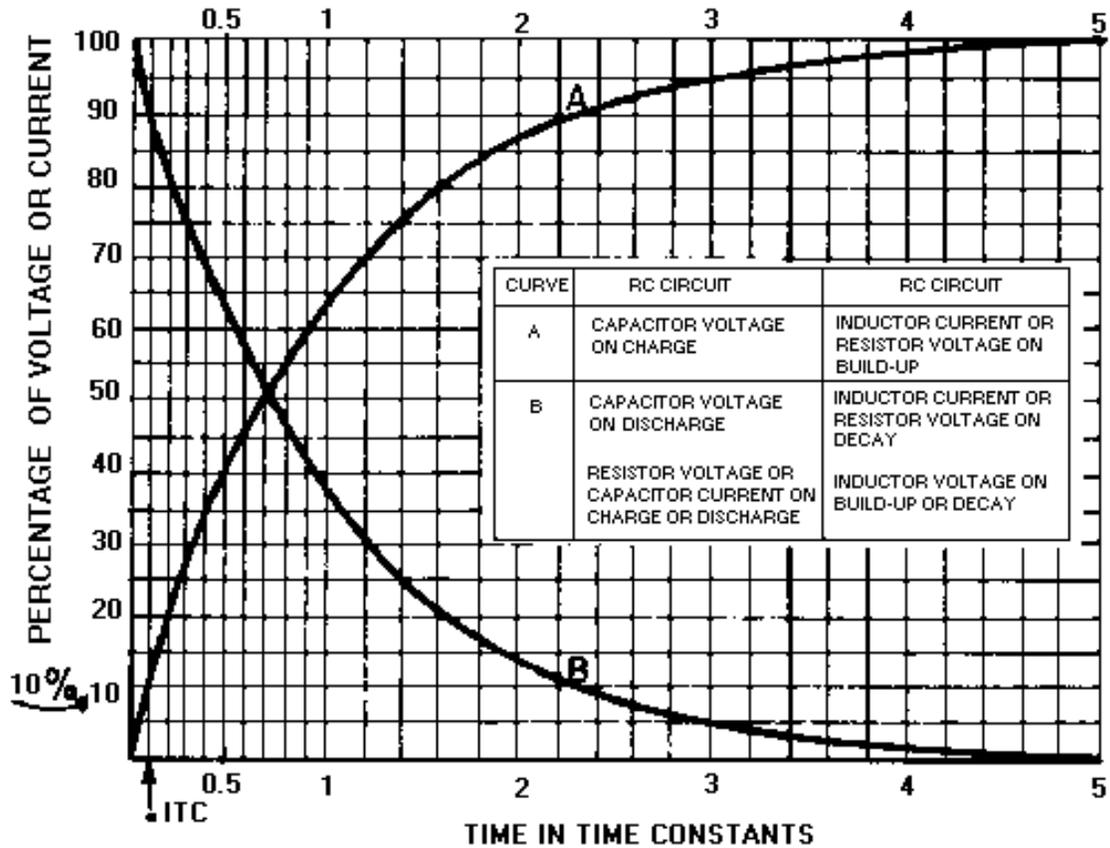

Figure 3-39.—Universal Time Constant Chart.
By selecting the sizes of R and C, you can have a time constant of any value you desire. Further, by controlling the time S1 remains closed, you can generate a sawtooth of any duration. Figure 3-39 is the Universal Time Constant Chart. Notice in the chart that if 1 time constant is 1,000 microseconds, S1 (figure 3-38, view (A)) can be closed no longer than 100 microseconds to obtain a reasonable linear sawtooth. In this example, C1 will charge to nearly 10 volts in 0.1 time constant.
As stated in the discussion of time-base generators, the waveform produced from any sawtooth generator must be linear. A LINEAR SAWTOOTH is one that has an equal change in voltage for an equal change in time. Referring to the Universal Time Constant Chart in figure 3-39, you can see that the most desirable part of the charge curve is the first one-tenth (0.1) of the first TC .
Decreasing the value of the TC (R_2 or C_2), as shown in figure 3-43, view (B), results in an increase in the number of time constants and therefore causes linearity to decrease. Anytime the number of time constants increases, the percentage of charge increases (see the Universal Time Constant Chart, figure 3-39), and amplitude (physical length) increases. Without an increase in gate length, the time that C_2 is allowed to charge through R_2 remains the same; therefore, electrical length remains the same. Linearity is affected by gate length, the value of R , and the value of C ; but is not affected by changing the value of V_{CC} . Increasing the gate length decreases linearity, and decreasing gate length increases linearity. Increasing R or C in the circuit increases linearity, and decreasing R or C in the circuit decreases linearity.
The electrical length (sweep time), which is measured from T2 to T3, can be found by multiplying RC times the number of time constants. Refer to the Universal Time Constant Chart (figure 3-39) again to find that 57 percent is 0.83TC. By multiplying 0.83 times R1C1, you will find that the electrical length is approximately 21 milliseconds: